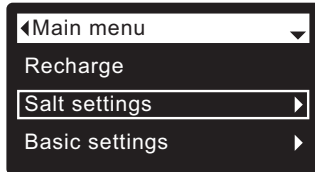

FIG. 43
1. From any of the rolling status screens, press the SELECT (O) button to display the **Main menu**.
2. Press the DOWN (▼) button to scroll through the menu options until **Salt settings** is highlighted (See Figure 43).